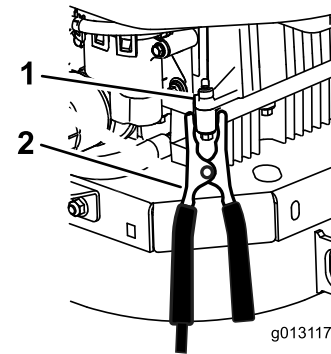

Figure 60
- Make the final connection on the engine block of the stalled vehicle (NOT to the negative battery post) away from the battery and stand back (Figure 60).**